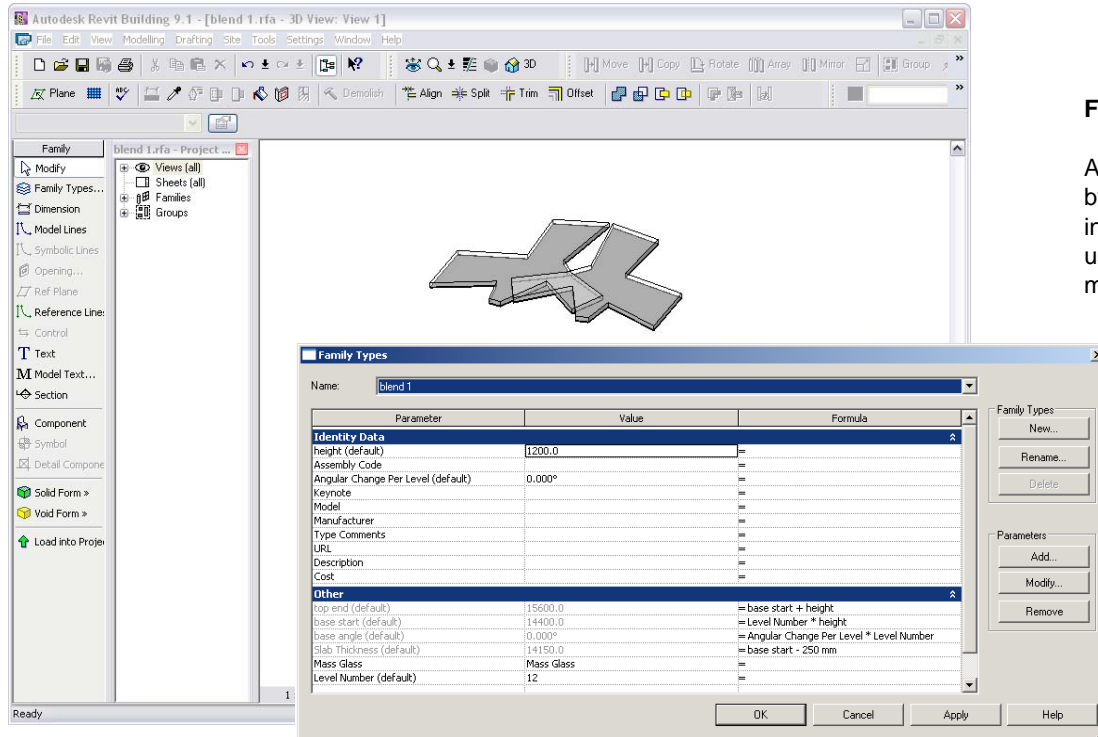

Figure 2:
- The simple blend shown in Figure 2 is the basis for this conceptual model.
- An integer coefficient drives algebraic formulas that determine the amount of rotation between the top and bottom of each mass as well as its orientation relative to the overall masses height (see formulas listed in the Family Types dialog box shown in Figure 2).